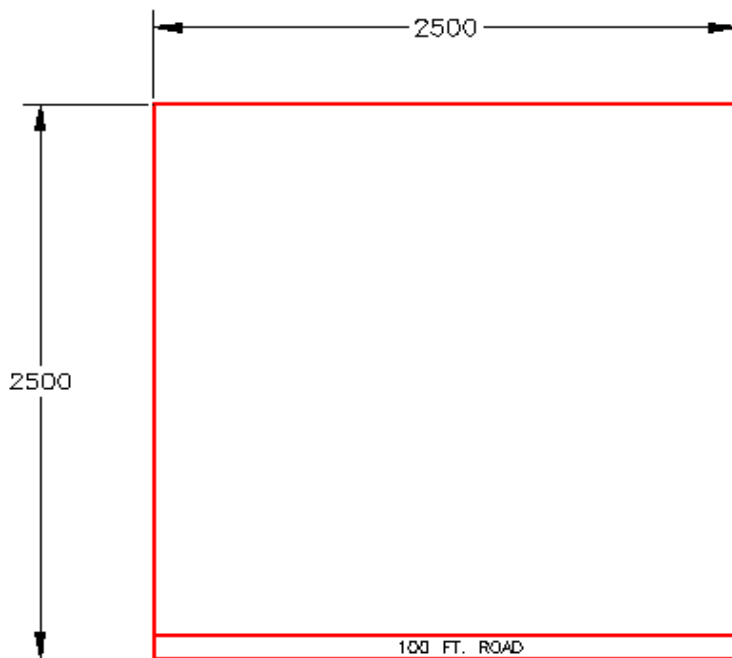

Figure Step 1
Step 1 In this lab exercise, you will be creating a surface mesh on a plot of land that is 2500 X 2500 feet. There is an existing 100 ft. road on the south side of the property. (Figure Step 1)